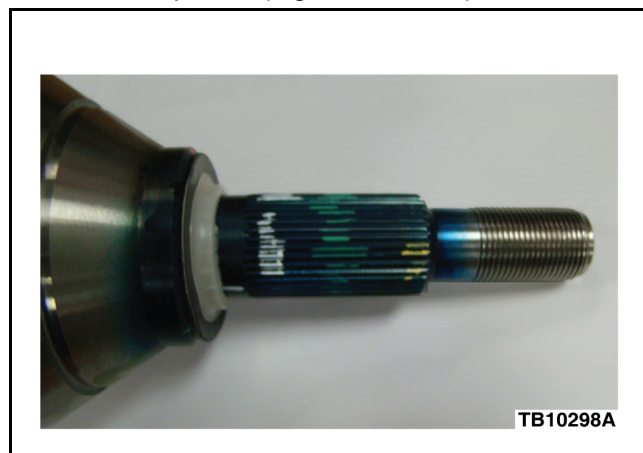

Figure 1 - Article 13-5-14
2. Install one (1) thrust washer, metal surface first, over the halfshaft splines until the metal ring is flat against the wheel bearing mating surface. The nylon surface should face outward toward the hub/splines. (Figures 1 and 2)